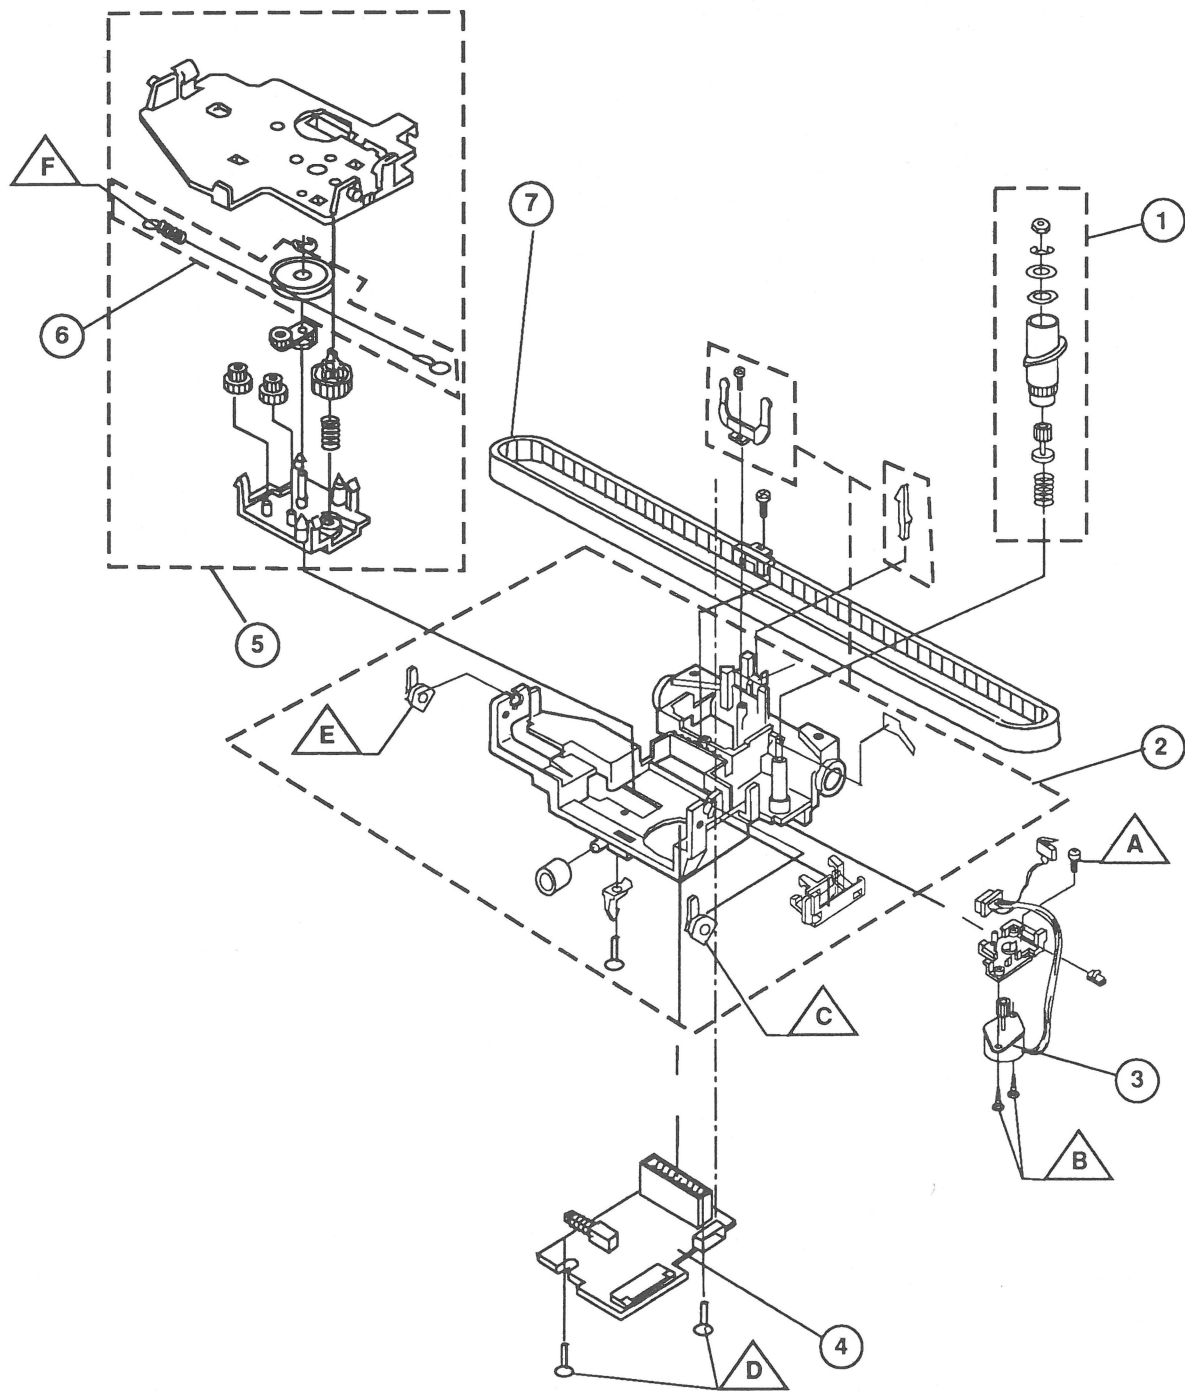

Figure 5
□ CARRIER ASSEMBLIES (Figure 5)
The following screws, E-clips, etc., are used in the parts shown in Figure 5: